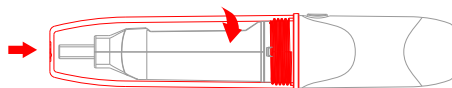

Fig.25
Step 6. To re-install the transparent cap, rotate it in the direction shown in Fig. 25.